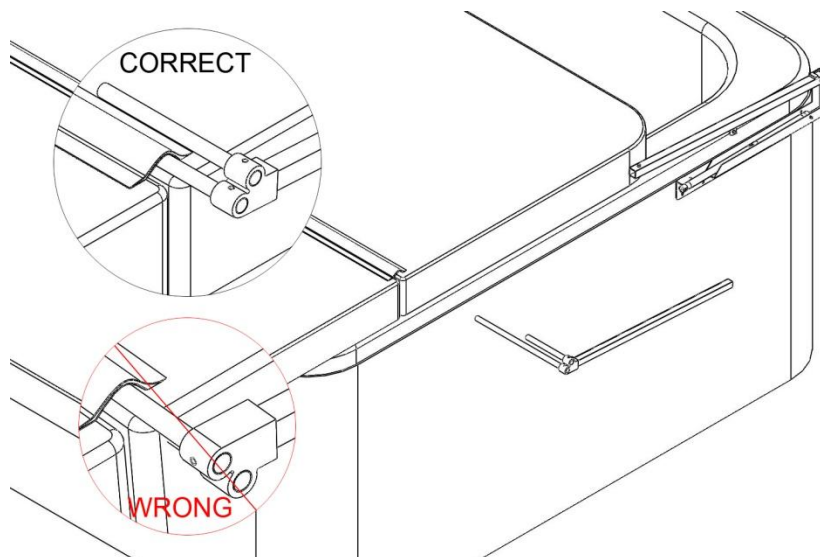

Figure 12
12. Slip the seam in the middle of the spa cover between the Fingers (cvEE) with the Extension Arms (cvDD) pointing towards the Pivot Arms (cvCC). The long Finger (cvEE) should slide under the seam, while the short Finger (cvEE) should lie on top of the seam, and the “knuckle” of the Extension Arm (cvDD) should be facing up. See Fig 12.